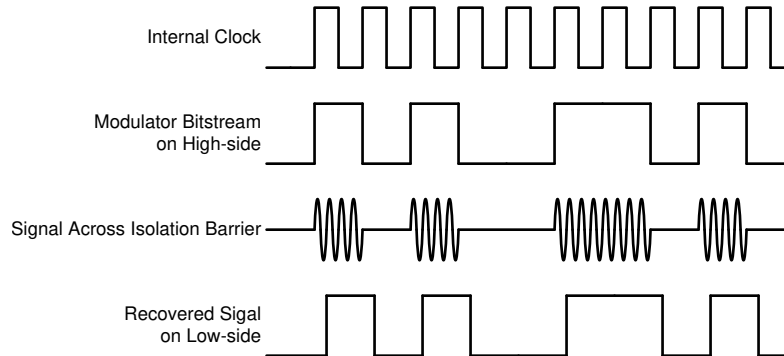

Figure 7-1. OOK-Based Modulation Scheme
The AMC3301 uses an on-off keying (OOK) modulation scheme, as shown in Figure 7-1, to transmit the modulator output bitstream across the capacitive SiO₂-based isolation barrier. The transmit driver (TX) shown in the Functional Block Diagram transmits an internally generated, high-frequency carrier across the isolation barrier to represent a digital *one* and does not send a signal to represent a digital *zero*. The nominal frequency of the carrier used inside the AMC3301 is 480 MHz.